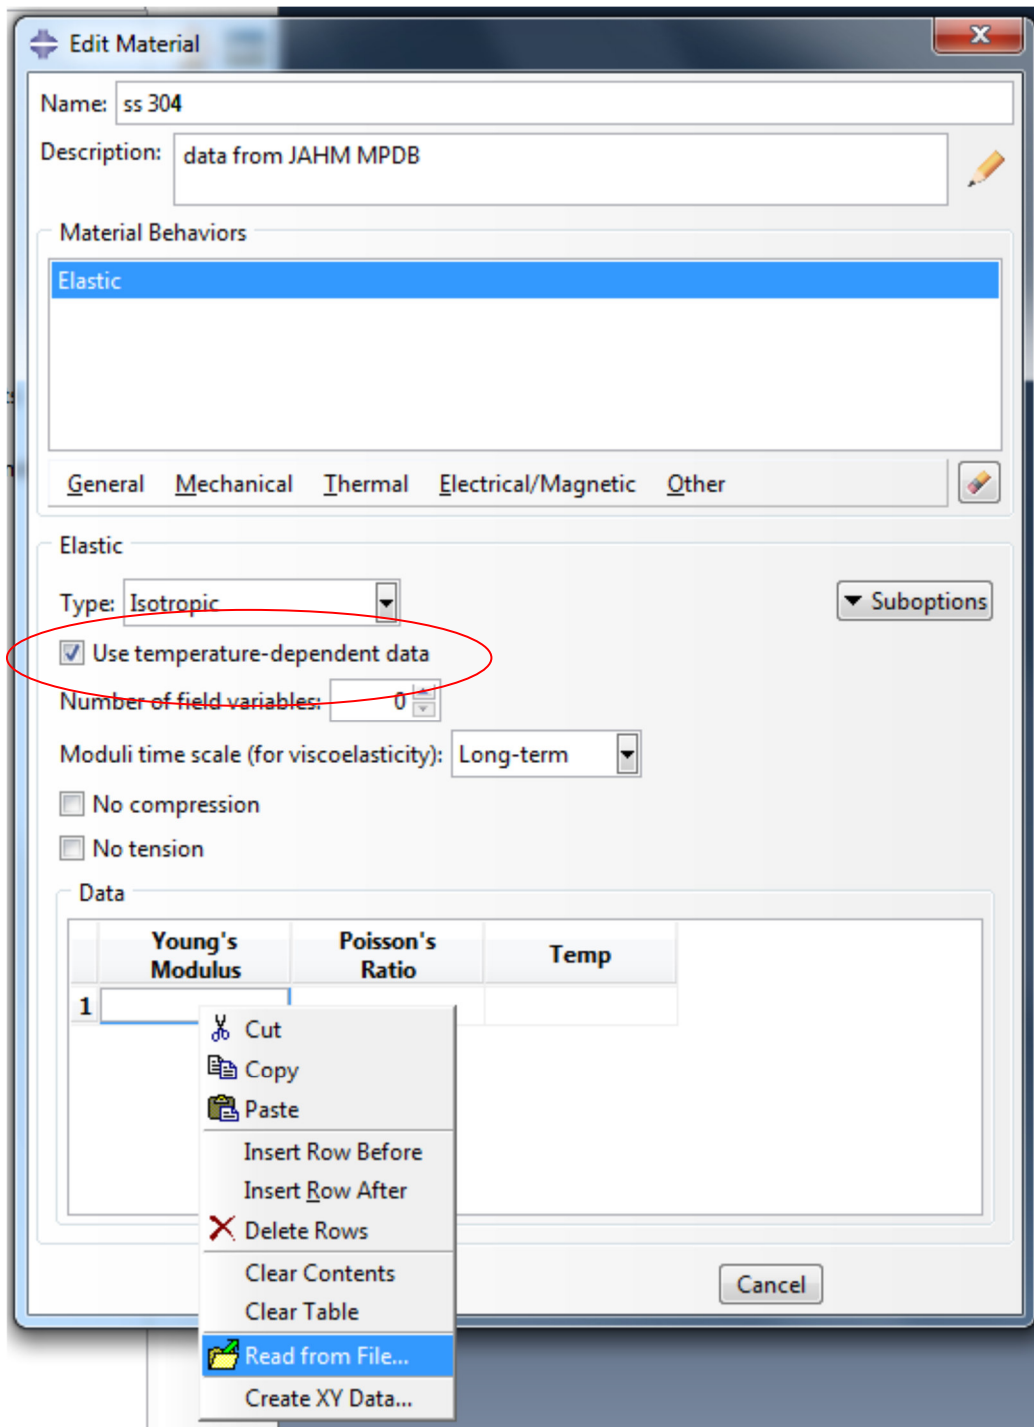

Figure 8.
- d) Check the “Use temperature-dependent data” option and right-click in the first cell of the first column and select “Read from file...” from the pop-up menu, Figure 8.